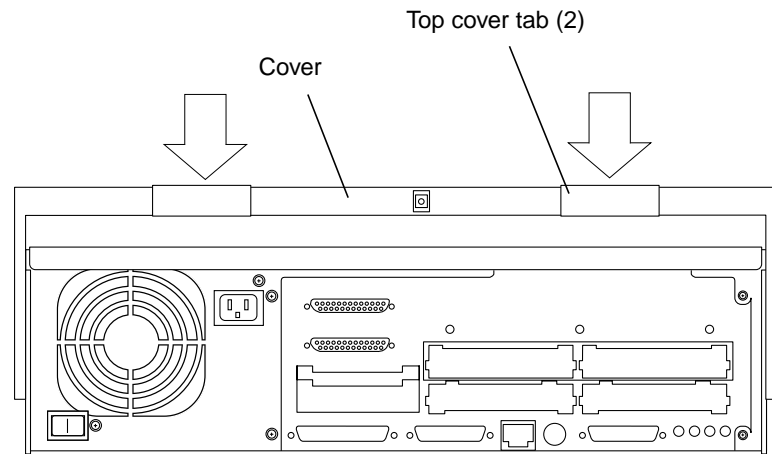

Figure 2-11 Replacing the Cover
3. Lower the cover onto the system unit so that the rear of the cover is supported by the chassis back panel (Figure 2-11).